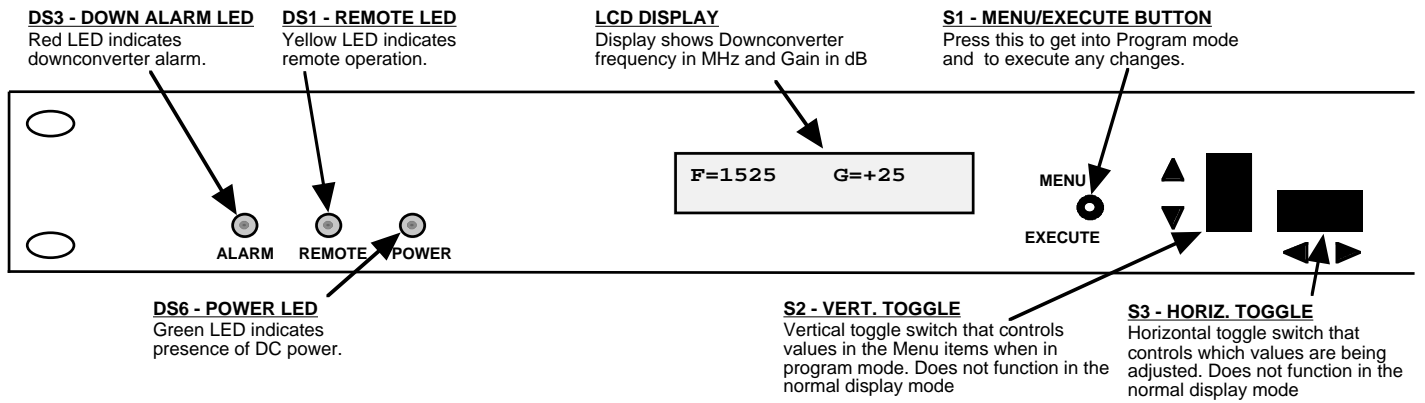

FIGURE 2.3 2016-02-160 Front Panel Controls and Indicators
6. Be sure DS6 (green, DC Power) is on and DS3 (red, Alarm) is off (Figure 2.3).
Alarm indications appear on the LEDs (see figure 2.3).